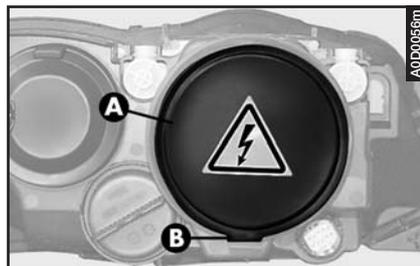

fig. 26
- Remove the rubber cap (**A-fig. 26**) by pulling the tab (**B**).